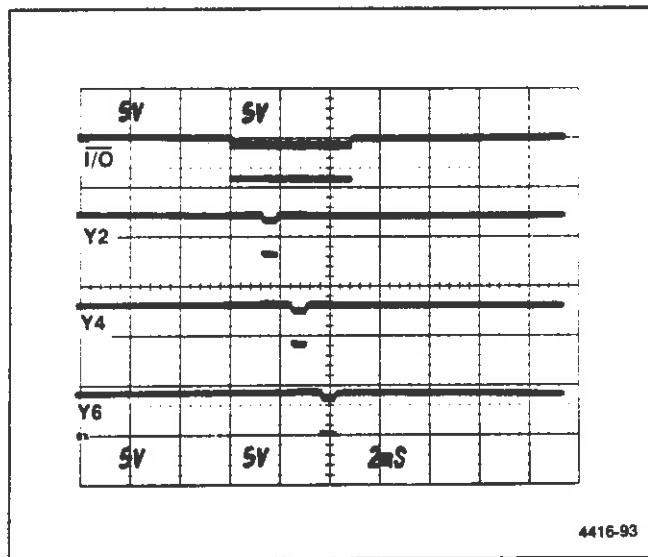

Figure 6-38. Chip selects Y2, Y4, and Y6 in relation to I/O.
**GPiB Board Address Decoders** — Address decoder U1055 on the GPiB board sets its outputs low to select the GPiA, the GPiB address switch and the bank latch. Y2, Y4, and Y6 are shown in relation to I/O in Figure 6-38.